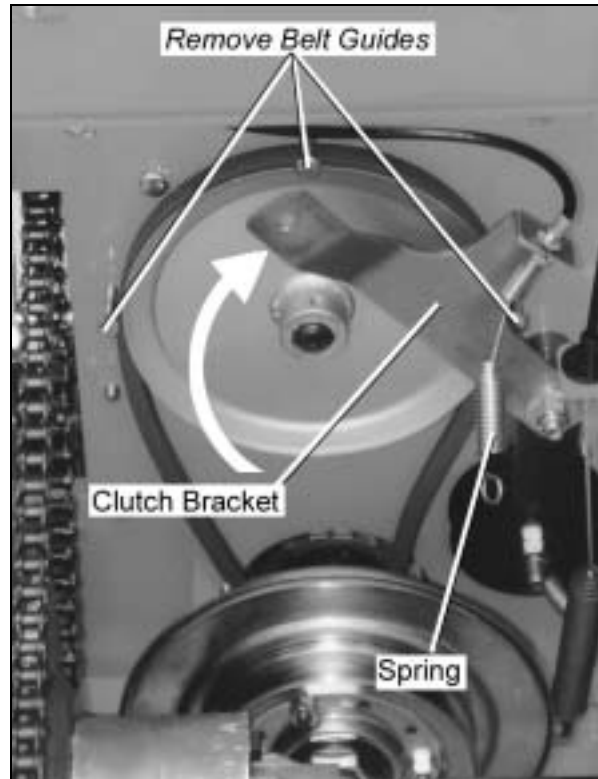

Figure 13
6. Remove the spring (*Figure 13*).
7. Lift and swing the clutch bracket out of the way (*Figure 13*).
8. Remove the three belt guides (*Figure 13*).